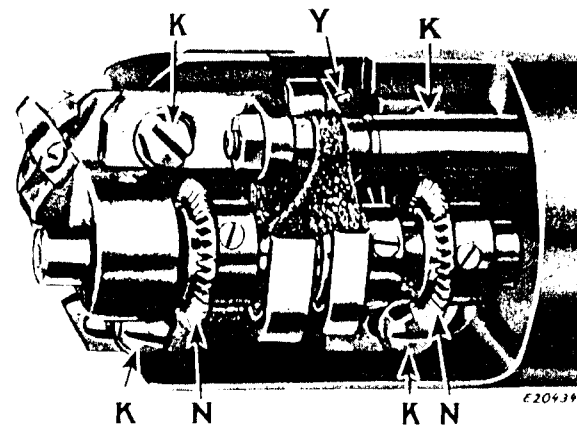
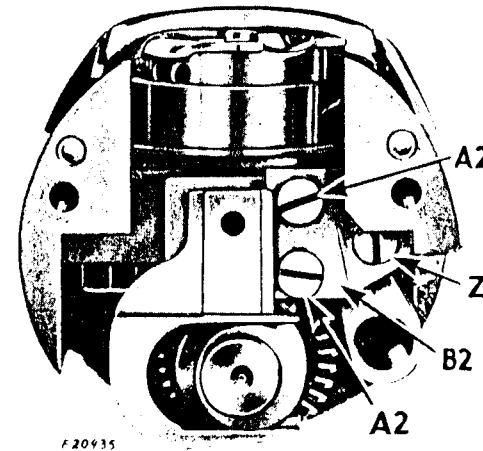

Fig. 17. Adjustment of Hook Saddles
Fig. 18A. Adjustment of Feed Bar
If the sewing hook runs too far from or too close to the needle, loosen the hook saddle screws (K, Fig. 17) just enough to permit the saddles to be driven by light blows to the position desired, then retighten the hook saddle screws.
If the hook is not timed correctly, loosen the two set screws in the hub of the hook driving gear (N, Fig. 17) and turn this gear on the shaft until the point of the hook is at the centre of the needle. Then securely tighten the two set screws in the gear.
Usually when the feed dog is at its highest position, it should show a full tooth above the throat plate. To raise or lower the feed dog, remove the cylinder end cover, loosen the feed dog screw (D, Fig. 4) and adjust the feed dog to the required height, then securely tighten the feed dog screw (D). To adjust the feed dog on Machine 154K101, it will be necessary to remove the outside hook saddle and two screws (K, Fig. 17).
To compensate for looseness in feed bar mechanism, loosen screw (Y, Fig. 17) and tighten screw (Z, Fig. 18A), being careful not to make it bind the mechanism, and retighten screw (Y, Fig.
17). Then loosen the screws (A2, Fig. 18A) and with a light pressure push the tapered gib (B2, Fig. 18A) upward, retighten the screws (A2, Fig. 18A). Caution: Before operating machine, make sure that the feed mechanism is not so tight as to cause a bind.